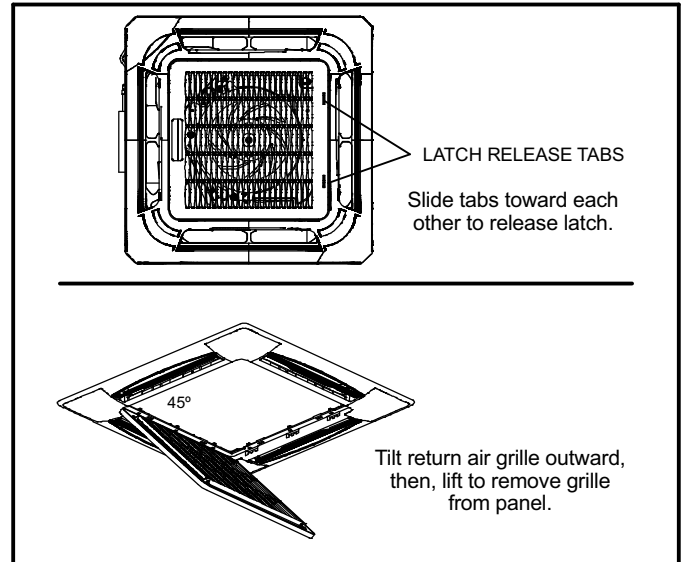

Figure 13. Remove Return Air Grille
- 2 - Slide the two grille latches toward each other at the same time to release the grille. See figure 13. Tilt the return air grille outward at a 45° angle (grille is held in place by tethers). Release the tethers and lift the grille away from the panel. Carefully place the return air grille off to the side.